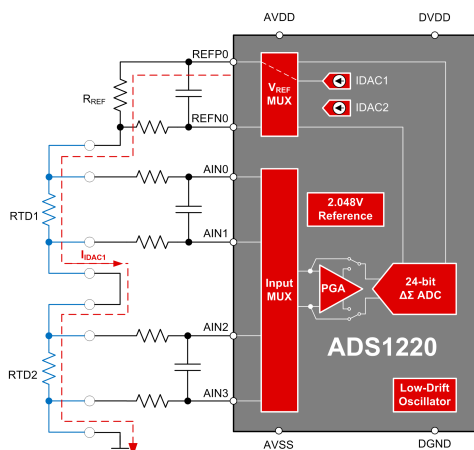

Figure 2. ADS1220 DTM Connection Diagram
Typical DTM implementations use two 2- or 4-wire resistance temperature detectors (RTDs). Figure 2 shows two 4-wire RTDs attached to the ADS1220, a 24-bit, low-power ADC operating down to 2.3 V and offered in a 3.5 mm x 3.5 mm QFN package.
The specific end-equipment defines the component selection and ADC settings for the system shown in Figure 2. As an example, Table 1 lists common DTM requirements in heat meter applications using two PT-500 RTDs.
Table 3 lists the necessary register settings to implement the configuration shown in Figure 2 and enable the parameters from Table 2.
With these settings, the system achieves a DTM resolution better than 10 mK. Additionally, the system can measure each RTD and still power down the ADC for approximately 98% of the 1 second measurement cycle. During the RTD measurements, the ADS1220 consumes approximately 965  $\mu$ A while operating at the settings shown in Figure 2.
As stated in the "Circuit Implementation" section, the diagram in Figure 2 employs a ratiometric measurement such that the voltage across the RTD and reference voltage are both proportional to the IDAC current. Therefore, calculating the RTD temperature only requires the ADC's output code and resolution (N) as well as the user-defined values for gain and  $R_{REF}$ :